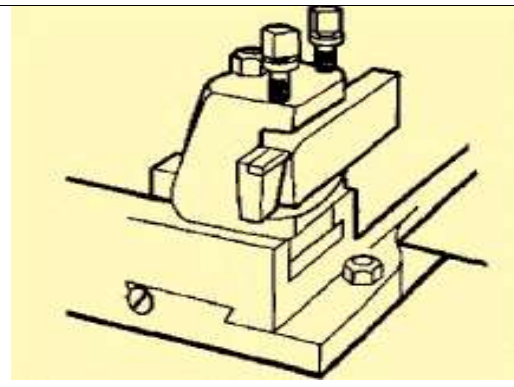

Figure 7-17. Heavy-duty or open-sided tool post.
**The Heavy-Duty or Open-Sided Tool Post:** Is used for holding a single carbide-tipped tool bit or tool holder. It is used mainly for very heavy cuts that require a rigid tool holder. (Figure 7-17).